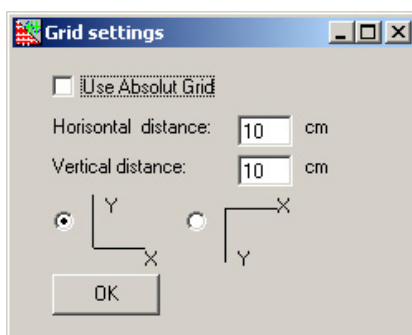

Fig. 38. The GalvaPulse PC program window.
- e. Press the *Settings* menu. A pop-up box for grid settings will appear. Enter the horizontal and vertical distance between the measurements in centimetres and select the preferred orientation of the coordinate system. To use the entered values tick the box “Use Absolute Grid” and click *OK*. See Fig. 38.